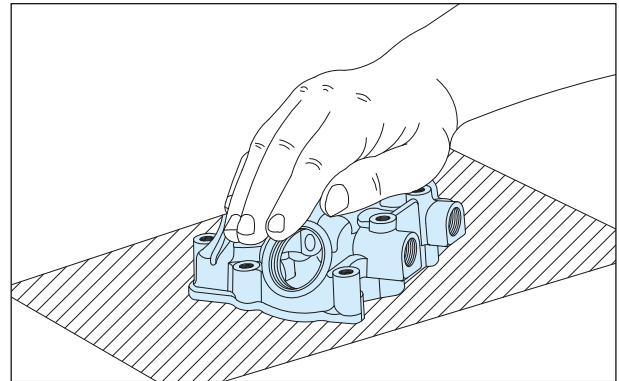

Fig. 3.107
- After cleaning the liquid gasket from the surfaces of the cover cylinder head, inspect the surface for any scratches, high and low spots. If noticed, remove them using a fine emery paper (400 grade) placed over the surface plate. (Fig. 3.107)